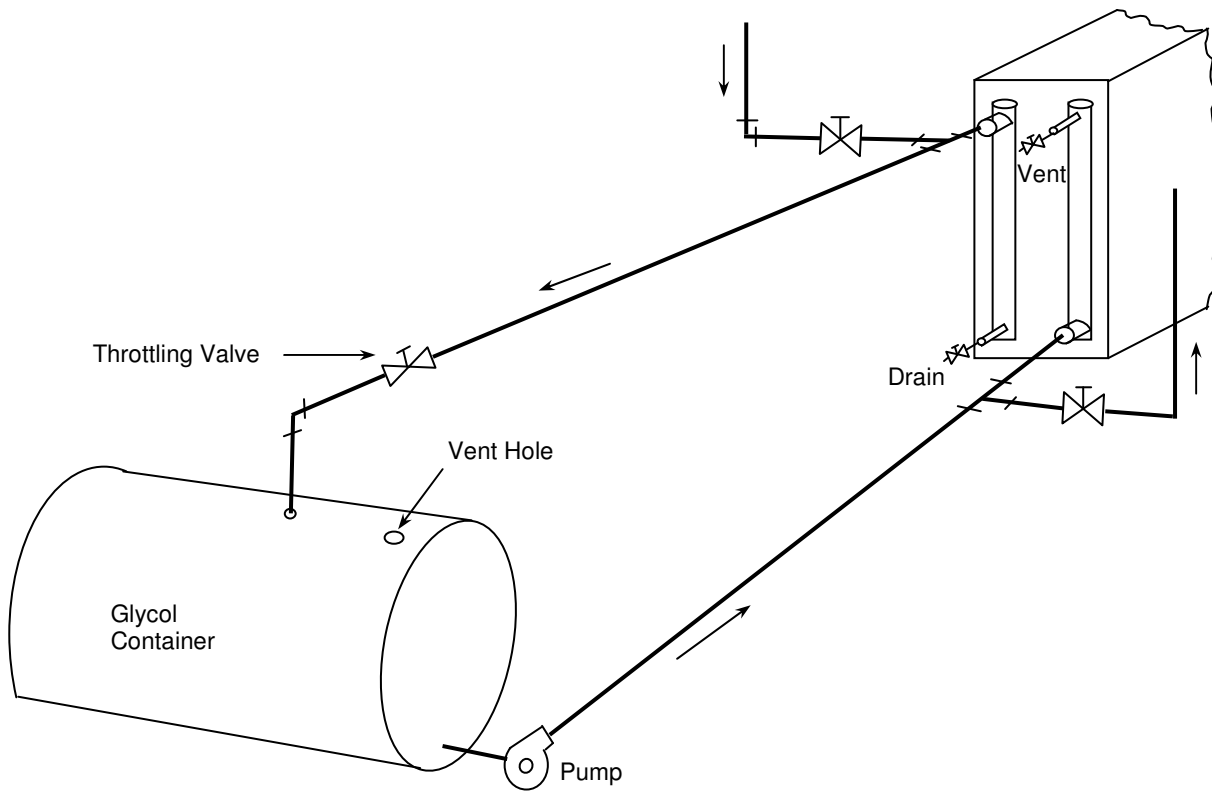

Fig. 3
4. Complete piping connections to the coil as shown in Figure 3.